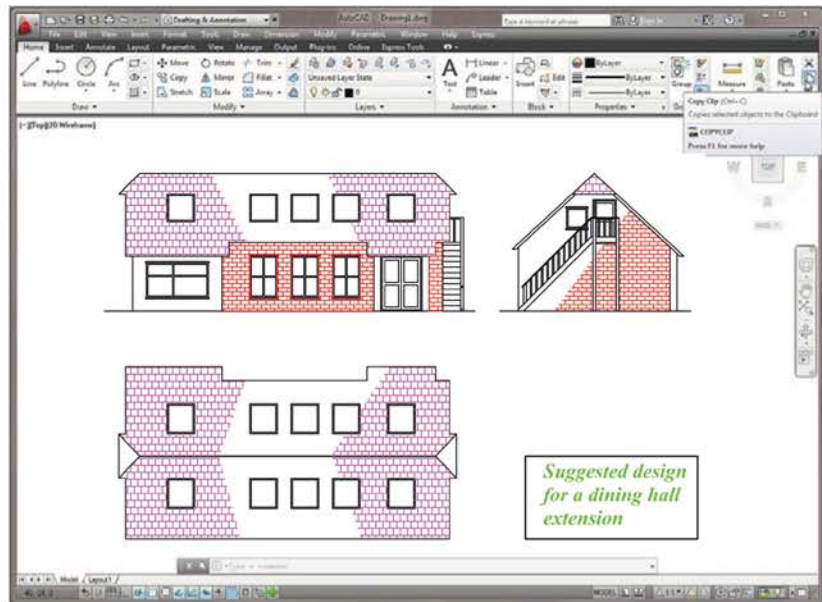

Fig. 14.1 A drawing in the AutoCAD 2017 with Copy Clip selected
1. Open any drawing in the AutoCAD 2017 window (Fig. 14.1).